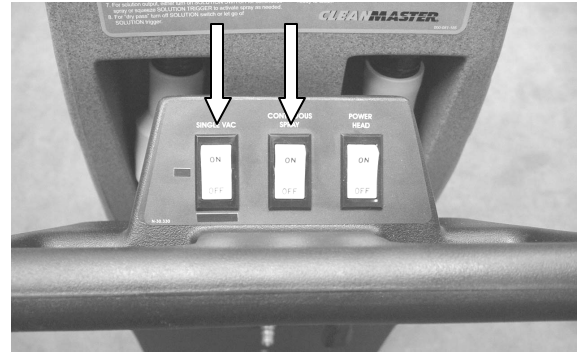

Fig. 5
1. Turn on the vacuum switch. Next, activate the pump by turning on the "Continuous Spray" switch (Figure 5).